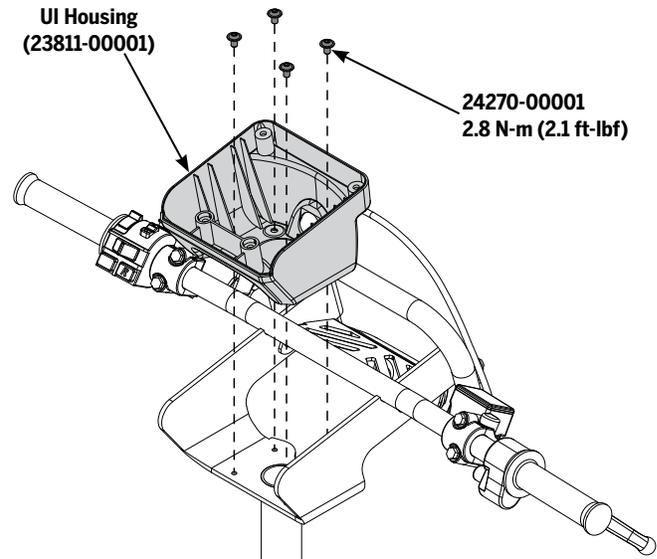

Figure 109: UI Housing
3. Using a 4 mm hex wrench, remove the four fasteners as shown in **Figure 109**.
4. Using a 4 mm hex wrench, install the four fasteners as shown in **Figure 109**. Torque to **2.8 N-m (2.1 ft-lbf)**.